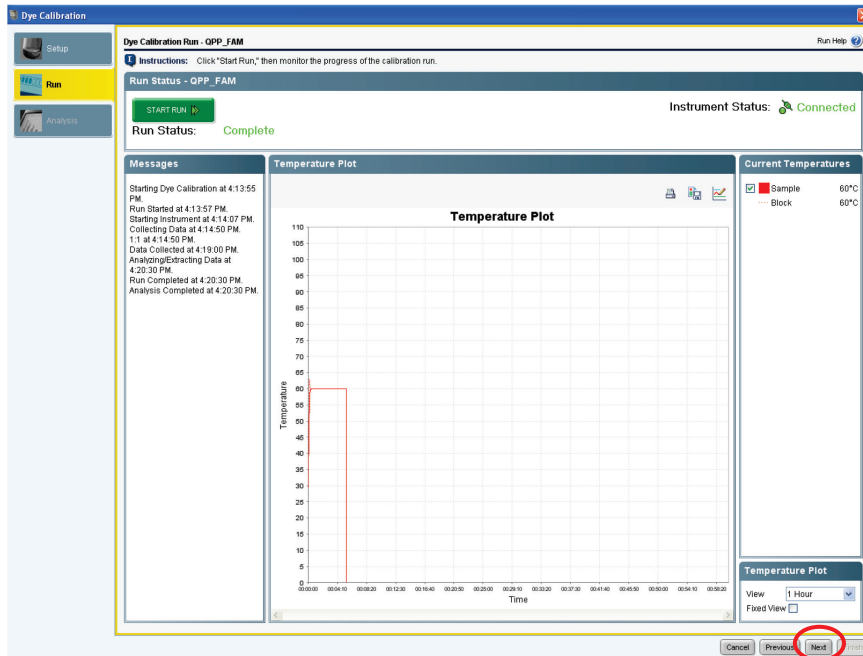

Figure 21. Completed calibration run.
20. After the calibration run has finished, click **Next** (Figure 21).